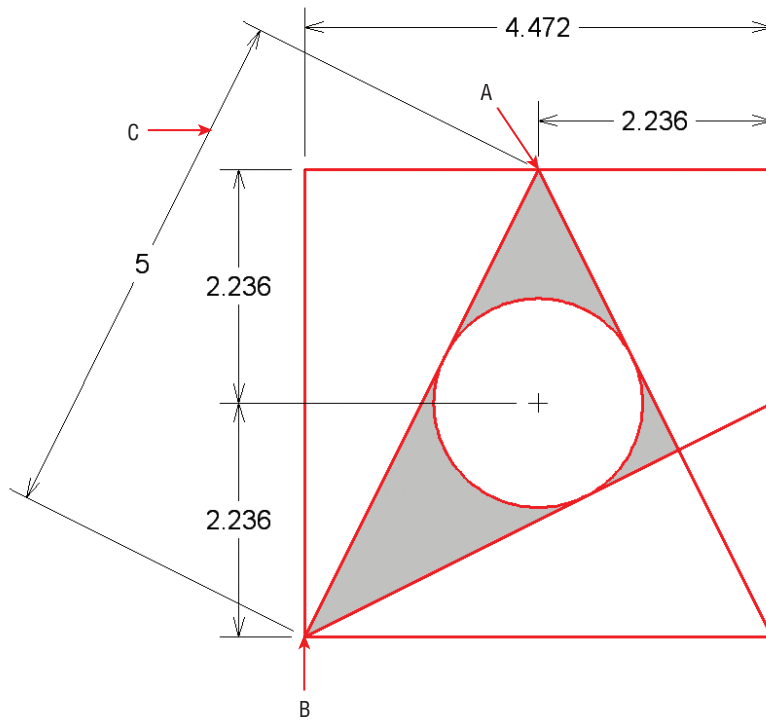

FIGURE 11.16 Adding an aligned dimension
8. Open the dimension menu in the Annotation panel, and select the Aligned tool. Click points A, B, and C, as shown in Figure 11.16.